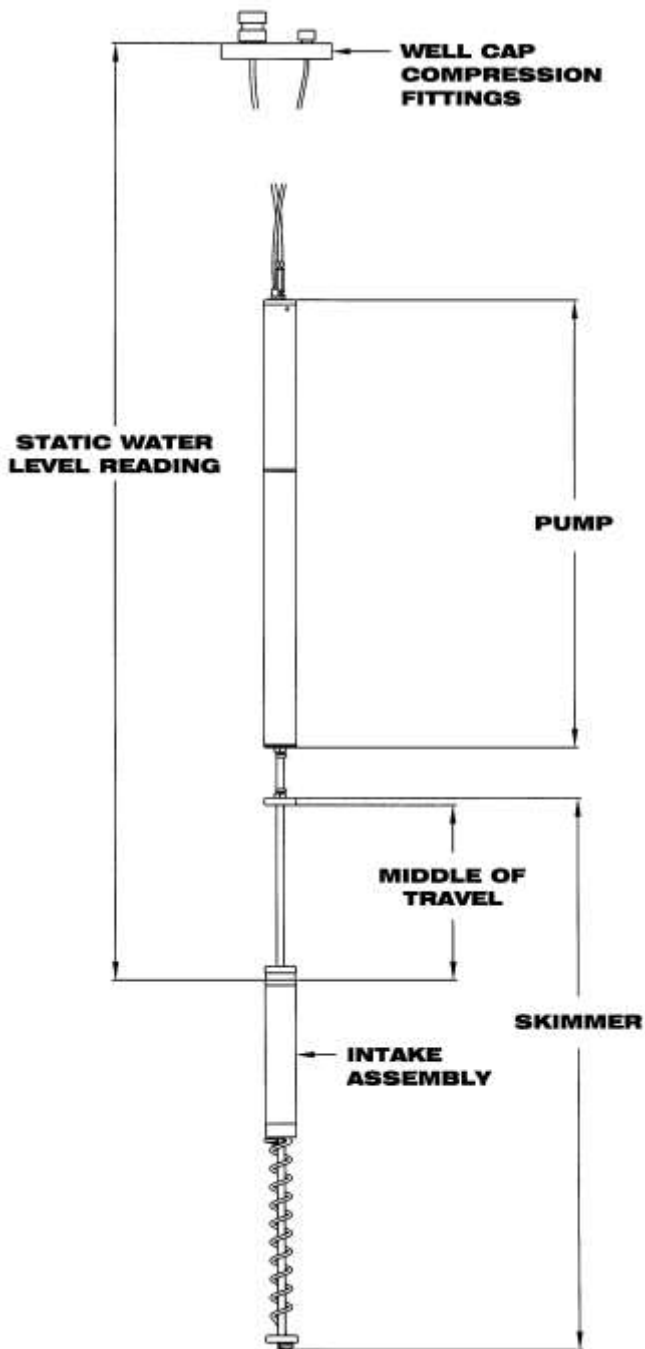

Figure 2-2: Pump and Skimmer Assembly with Well Cap
- See Figure 2-2 for a view of the Skimmer in relation to the well cap and static water level.